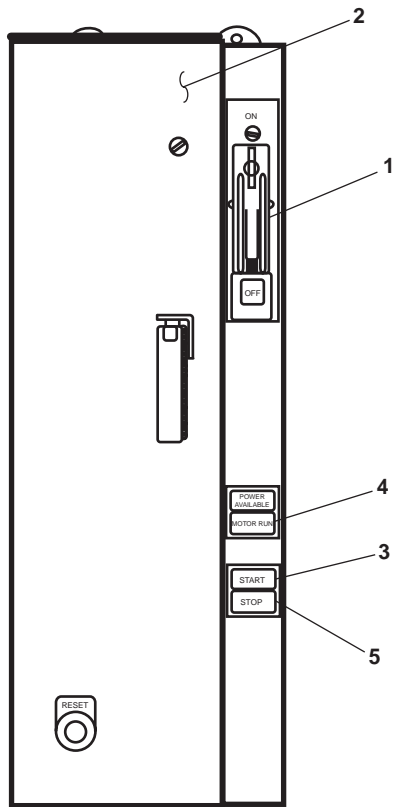

Figure 6. Sewage Discharge Pump Controller
9. Set the ON/OFF switch (figure 6, item 1) to the applicable SEWAGE DISCHARGE PUMP CONTROLLER (figure 6, item 2) to ON.
10. Press the START button (figure 6, item 3). Verify that the motor run light (figure 6, item 4) is illuminated.
12. Press the STOP button (figure 6, item 5) on the applicable SEWAGE DISCHARGE PUMP CONTROLLER (figure 6, item 2).
13. Set the applicable ON/OFF switch (figure 6, item 1) to the SEWAGE DISCHARGE PUMP CONTROLLER (figure 6, item 2) to OFF.